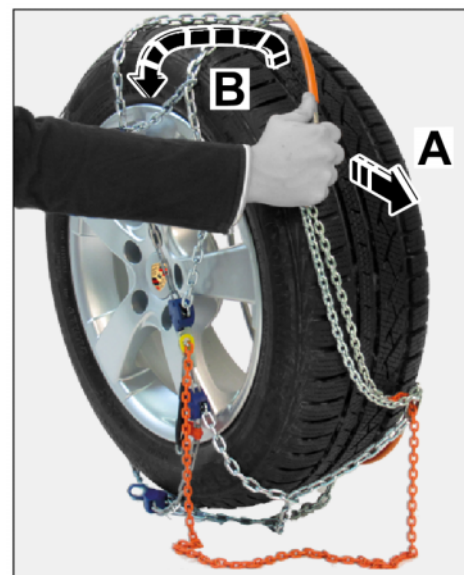

Figure 19
- 3.4.1 If the end of the spring steel clip is visible: Pull the ends of the spring steel clip apart as far as possible (⇒ *Figure 19 -A-*) and pull the snow chain off the wheel from above (⇒ *Figure 19 -B-*).